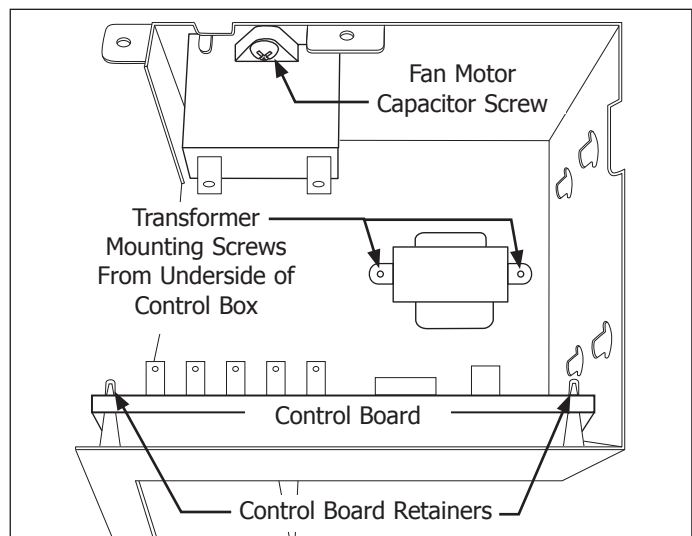

Figure 4-38.
5. Extract screw securing fan motor capacitor to control box assembly. (See Figure 4-38)
5. Release the plastic control board retainers then pull control board from control box. (See Figure 4-38)